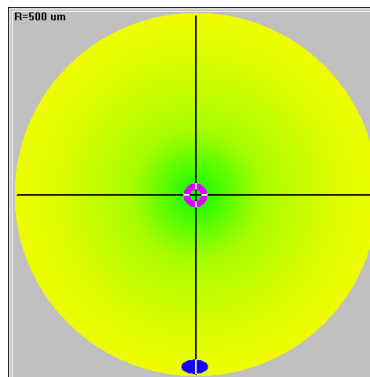

Fig. 5.7: The circular shape indicates the beam centroid location for the selected slit plane. The ellipse shape indicates the location of the beam waist.
- The blue "donut"-shaped icon shown in Figure 5.7 indicates graphically where the beam is centered, this must be near the middle of the cross-hairs after centering the beam.
9. The blue ellipse icon as shown in Figure 5.7 indicates the location of the waist of the laser along the optical axis (z -axis). When measuring a focused beam, the waist is located on the $z=0$ plane slit when the blue ellipse is centered. Otherwise the ellipse will move left/right depending on whether the beam waist is located before/after the $z=0$ plane slit.